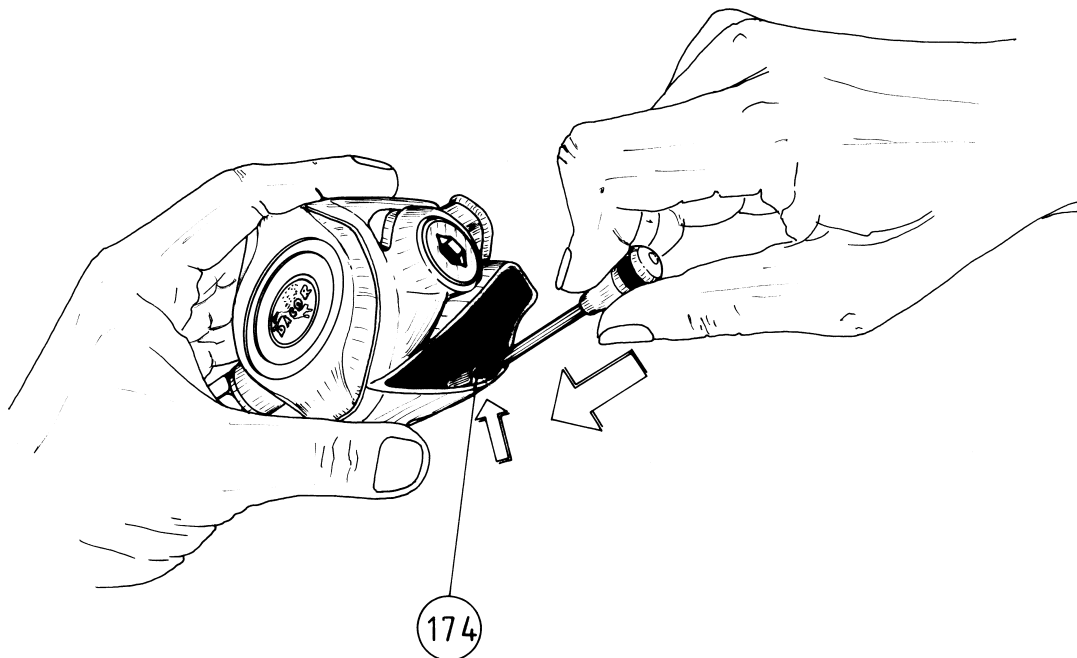

FIG. 1
3. Remove the mouthpiece (44).
4. Remove the fixing pin (174) from the cap (41) of the exhaust tee. (Fig. 1)
FOR THE OPERATION DESCRIBED IN STEP 4, IT IS RECOMMENDED TO USE A METAL PRICKER HAVING A MAX DIAMETER OF 2mm (Fig. 1).